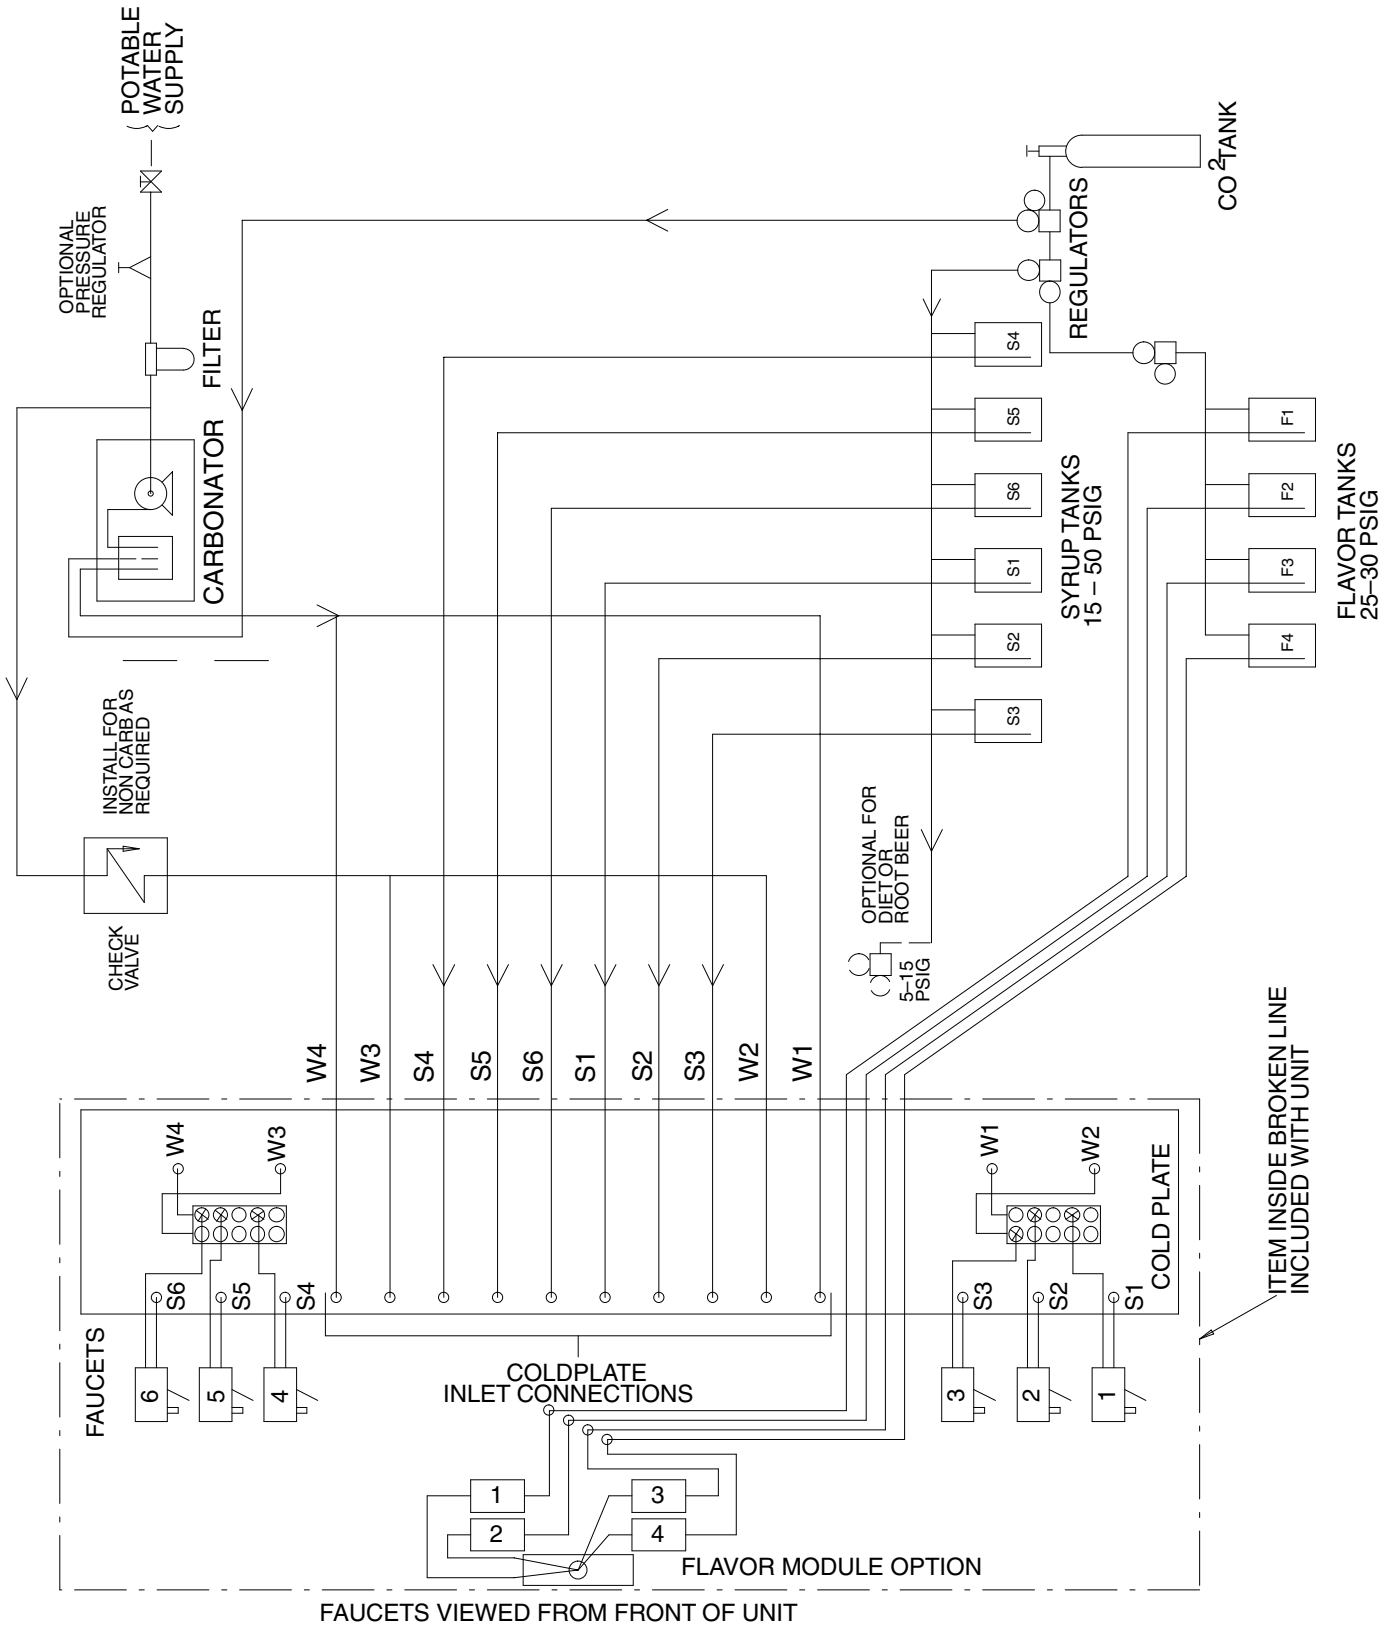

FIGURE 5. PLUMBING DIAGRAM (BC MODEL)
**NOTE: See applicable Plumbing Diagram (see Figure 5 or 6) or Decal on the lower front panel of the unit for the location of syrup and water connections.**